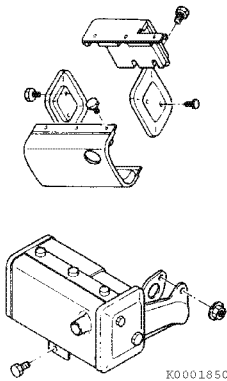

Figure 6-105
16. Install the exhaust muffler (**Figure 6-105**).